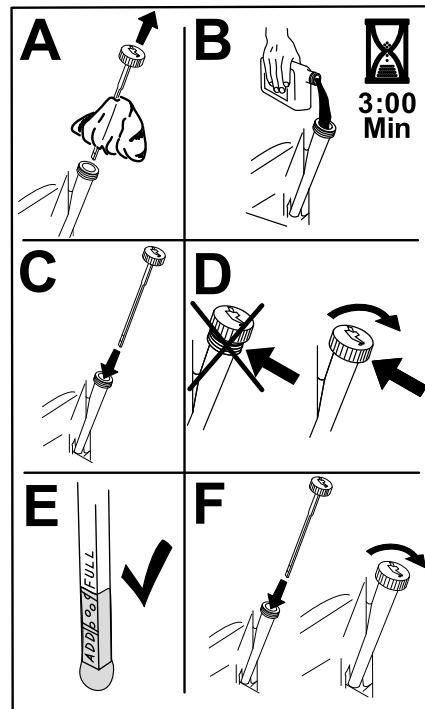

Figure 49
6. Slowly pour approximately 80% of the specified oil into the filler tube and slowly add the additional oil to bring it to the Full mark (Figure 49).